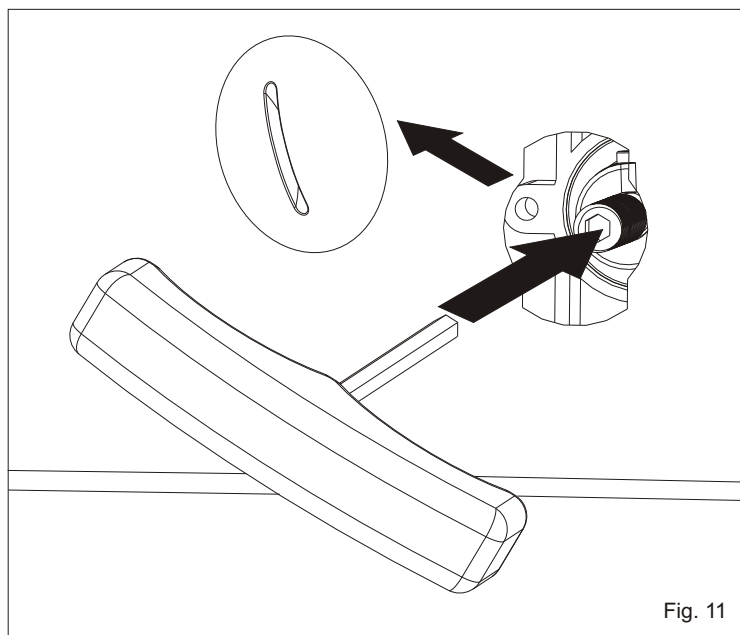
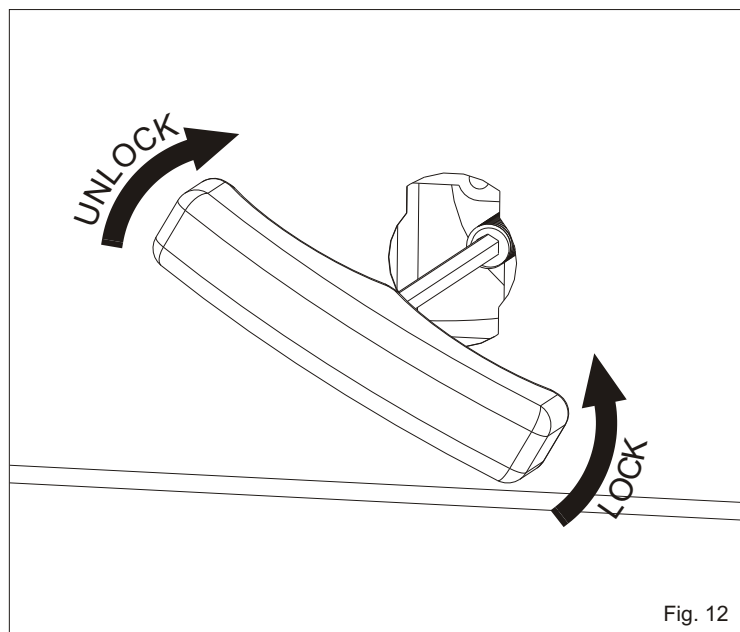

Fig. 11
Fig. 12
- On the side of the operator opposite to the pinion unscrew the releasing cap (Fig. 11), insert the hexagon "T" key (Fig. 11) and without forcing turn the key clockwise until it stops (Fig. 12);
- Insert the hexagon "T" key (Fig. 11) and without forcing turn anticlockwise until it stops (Fig. 12);